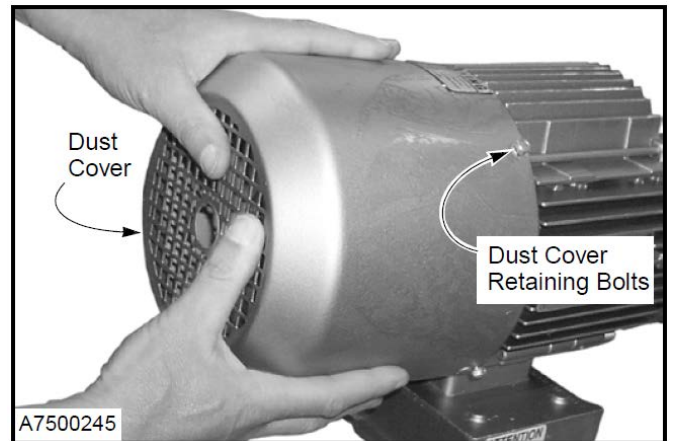

Figure 34
2. Loosen the retaining bolts securing the brake dust cover to the motor assembly. Remove the cover. (See Figure 34.)